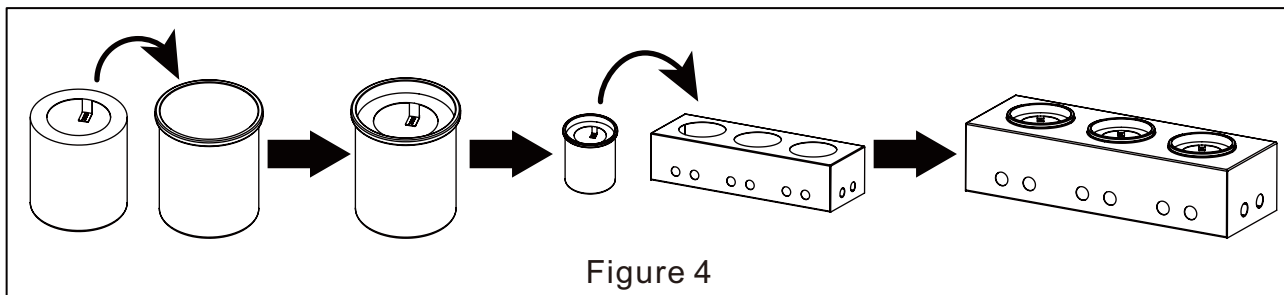

Figure 4
(1). Place the burner pot in the fire bowl body carefully, make the burner pot levelled (see Figure 4). The fire bowl can hold three burner pots at one time.